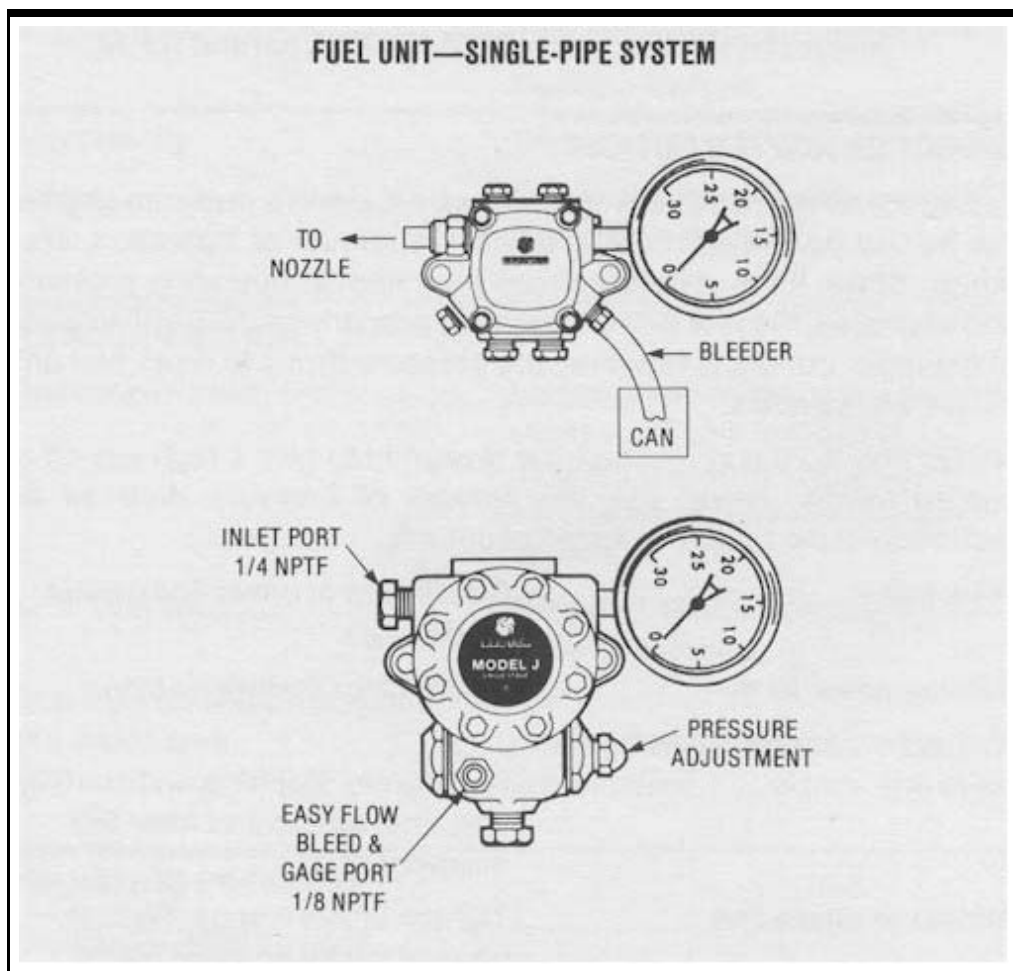

FIGURE 1 VACUUM GAGE LOCATION FOR SINGLE-PIPE SYSTEM
Step 1. Remove inlet line from fuel unit and install vacuum gage in the inlet port (see Figure 1). If unit has been running dry, pour oil into pump prior to testing.